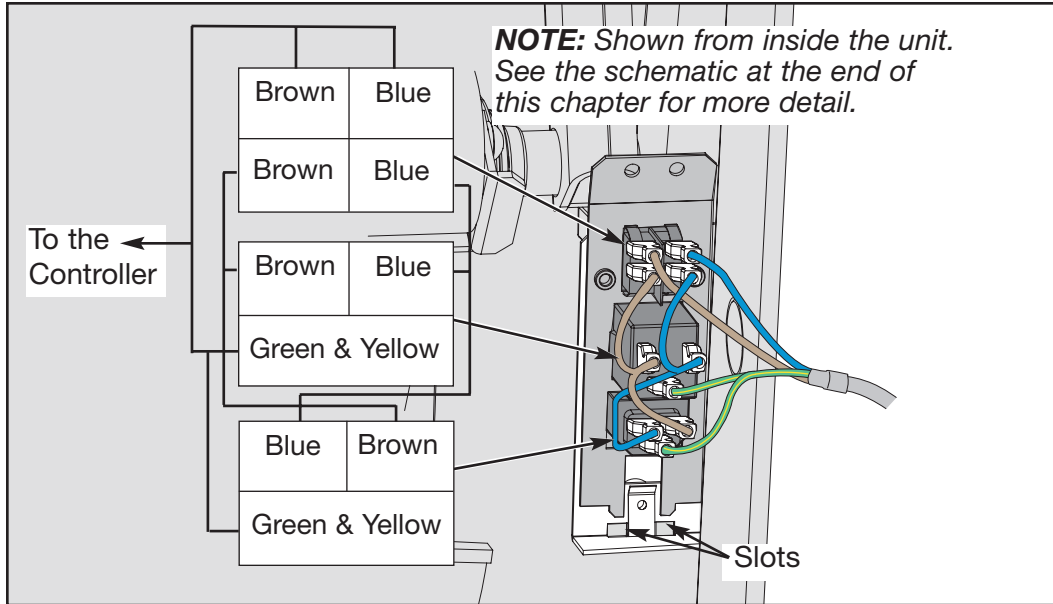

Figure 19
- Connect the ten fast-ons to the new power switch assembly as shown in Figure 19.
- Slide the power switch assembly into its slots. See Figure 19.